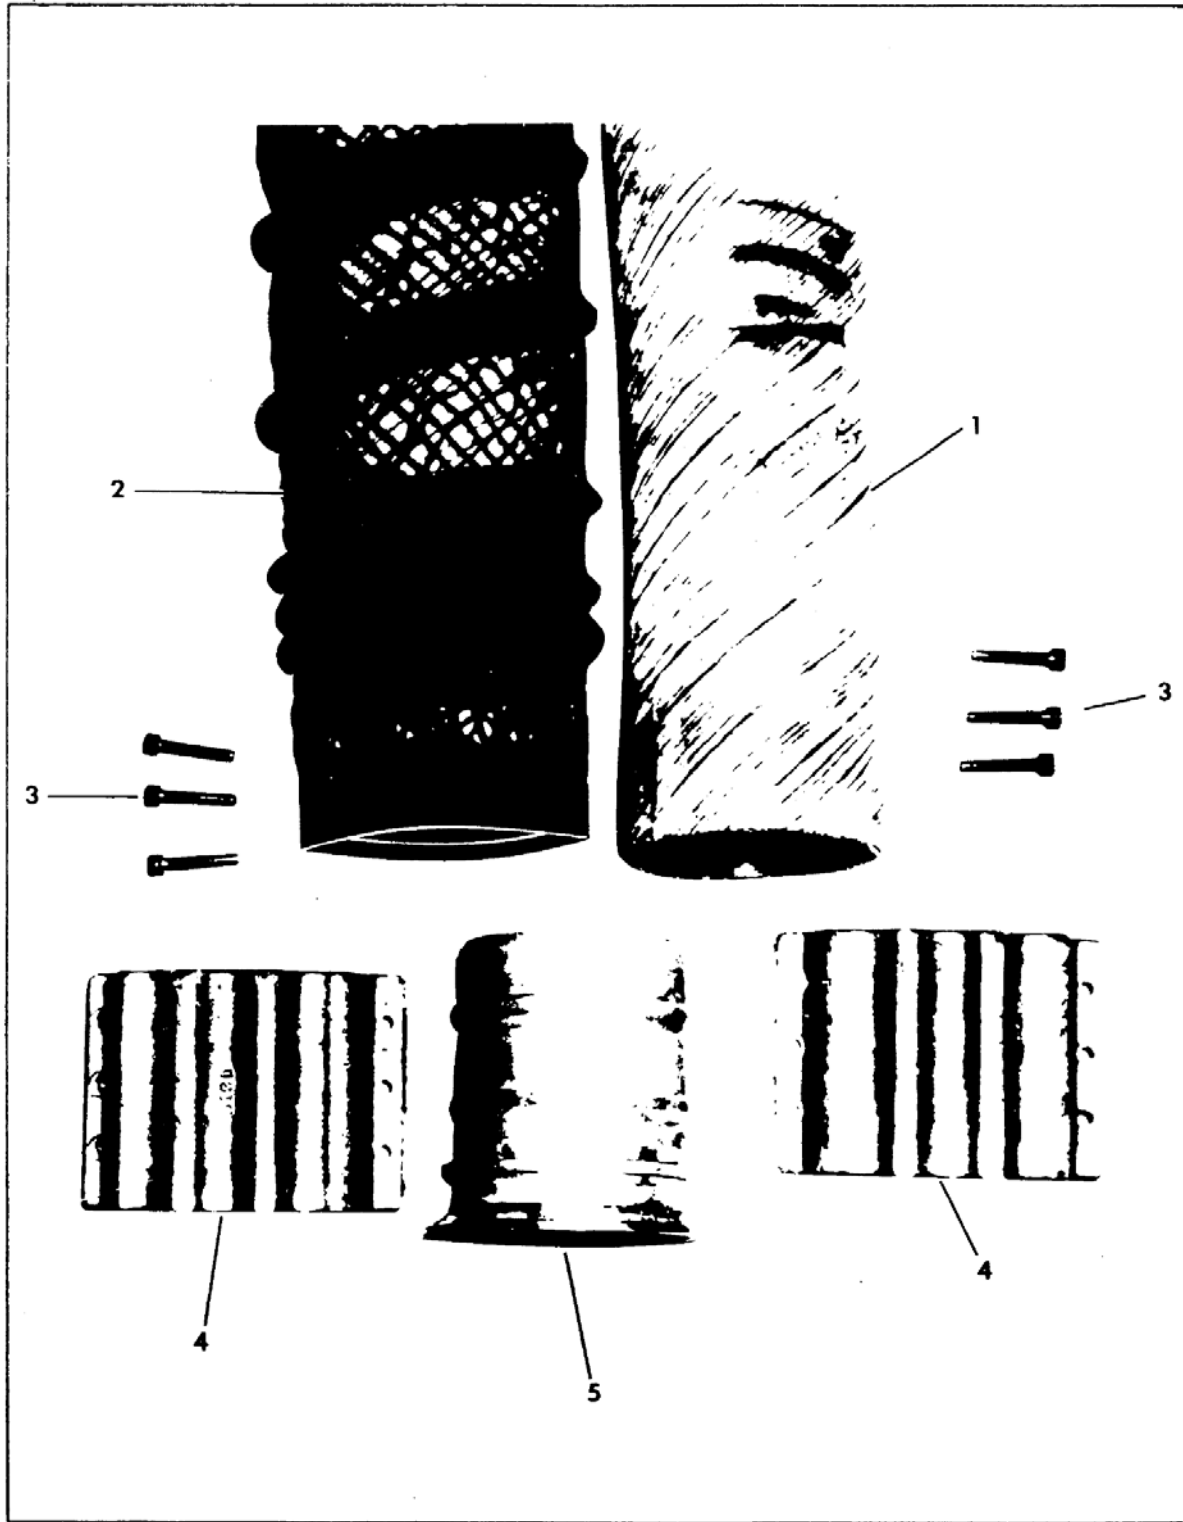

Figure 3: Duct Assembly
17. Duct Assembly Utilizing Fitting, Part No. 9130, reference Figures 3 and 4.
- a. Inspect duct (1) over fitting (5) until flush with raised lip.
- b. Install scuff cover (2) over duct (1).